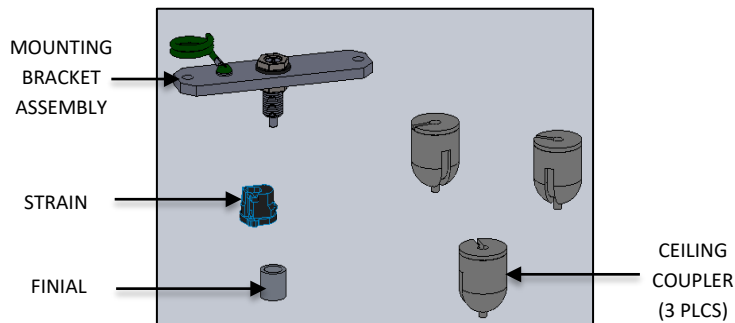
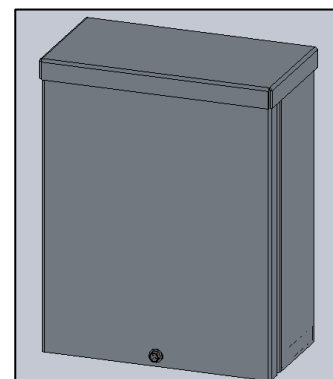

FIG. 5 - MOUNTING KIT CONTENTS
FIG. 6 - REMOTE DRIVER BOX
- b. MOUNTING KIT (as shown in FIG. 5)
- iv. THREE (3) CEILING COUPLER (CC)
4. REMOTE DRIVER BOX WITH DRIVER INSTALLED (as shown in FIG. 6)